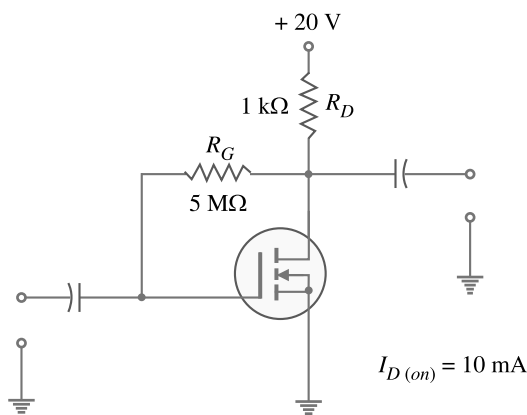

Fig. 17.71
**Example 17.40.** Determine the values of  $I_D$  and  $V_{DS}$  for the circuit shown in Fig. 17.71. The data sheet for this particular MOSFET gives  $I_{D(on)} = 10 \text{ mA}$  when  $V_{GS} = V_{DS}$ .